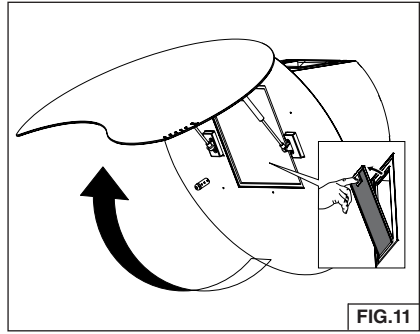

FIG.11
5. Lift glass front panel and remove grease filter. Fig. 11.